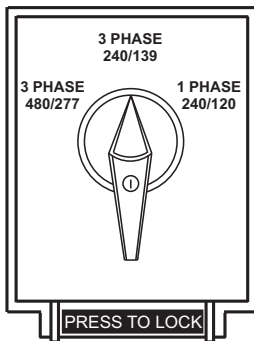

Figure 38. Voltage Selector Switch
2. Make sure the **Voltage Selector switch** (Figure 38) has been configured for the desired output voltage.